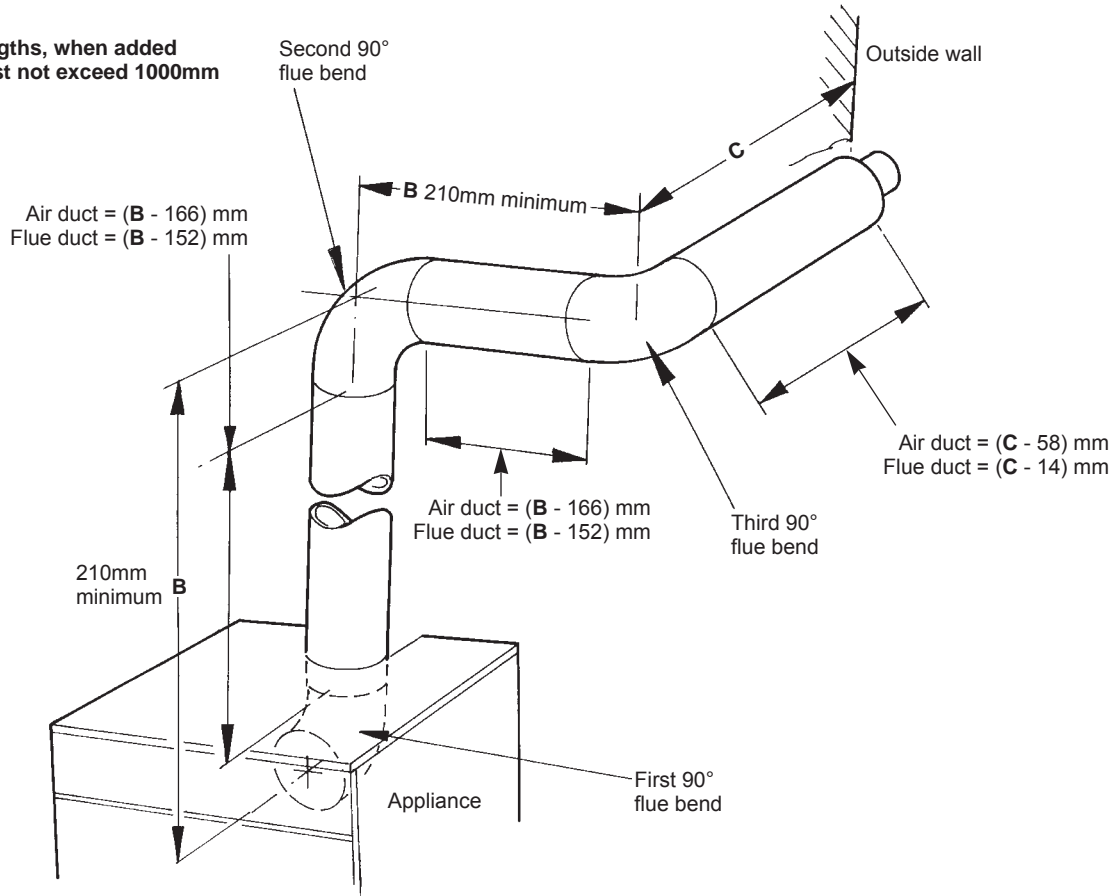

Fig. 30. Flue Option 9. Horizontal section of flue duct before the first 90° flue bend.
11.6.7. TO FIT A HORIZONTAL SECTION OF FLUE DUCT BEFORE THE FIRST 90° FLUE BEND FOR FLUE OPTIONS 2, 4, 5, 6, 7 AND 8. (FLUE OPTION 9). See Fig. 30.
Measure accurately the distance from the rear of the appliance, previously marked on the floor, to the centre of the first 90° flue bend. Dimension D. See Fig. 30.